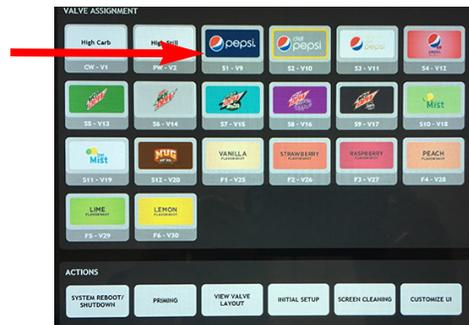

Figure 31
10. If a brand mapped to a valve requires correction, select the valve icon as shown in Figure 31.